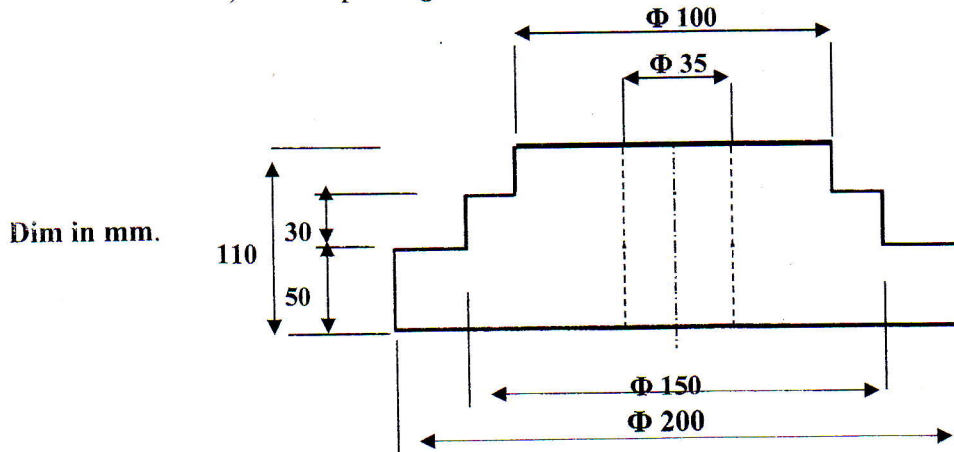

Fig. 1
B) Determine the weigh of the metal required for completing the casting process of low carbon steel pulley shown in Fig.1. Estimate the rate of pouring and draw the suitable die for casting the steel pulley. Take specific weight of melted carbon steel (7.50 grme/cm^3), carbon steel (7.89 grame/cm^3) and the coefficient of friction is 0.38. Take the machining allowances of casting (6 mm for upper surface, 5 mm for normal surface and 6 mm for internal diameter) and the pouring factor $S = 0.80$.